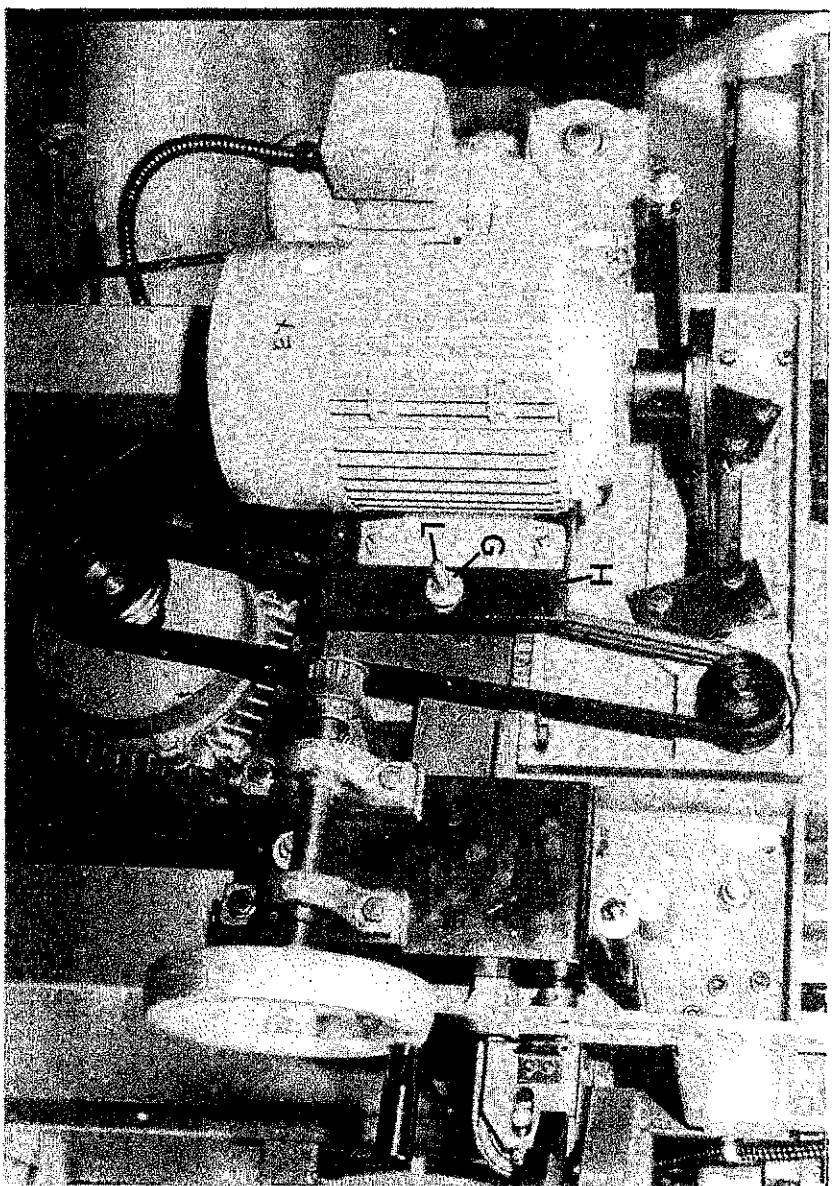

Fig 26
- 3) Release tension on M10 nut behind M10 nut "G" on pivot plate "H" FIG.26.
- 5) Remove M10 nut and washer "G" from stud "L" FIG.26.
- 4) Release tension on M10 nut behind M10 nut "G" on pivot plate "H" FIG.26.